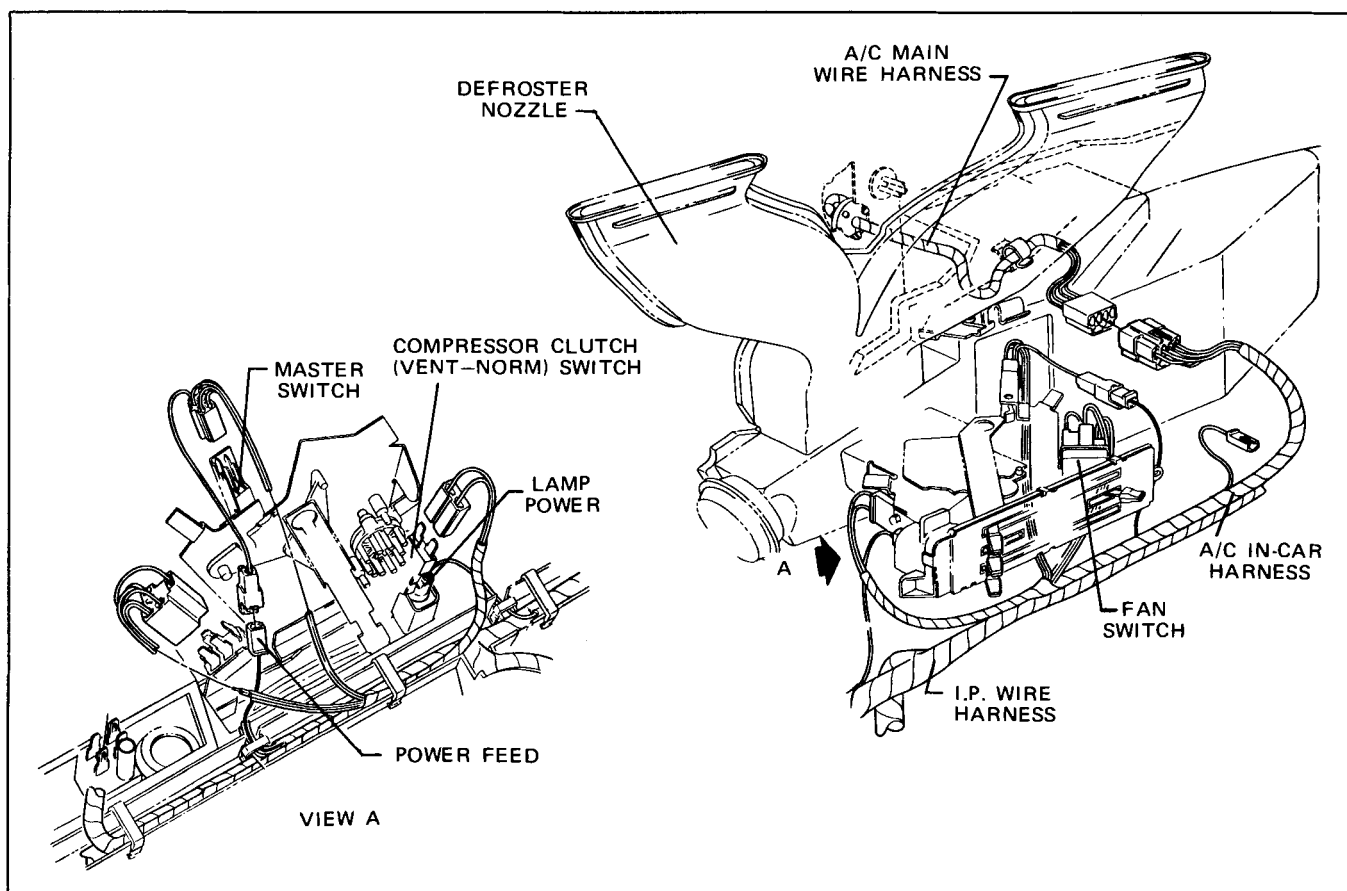

Fig. 1A-137 F Series A/C In-Car Wiring
7. To replace reverse removal procedure. See Figs. 1A-135 (G Series) and 1A-136 (A Series) for installation.